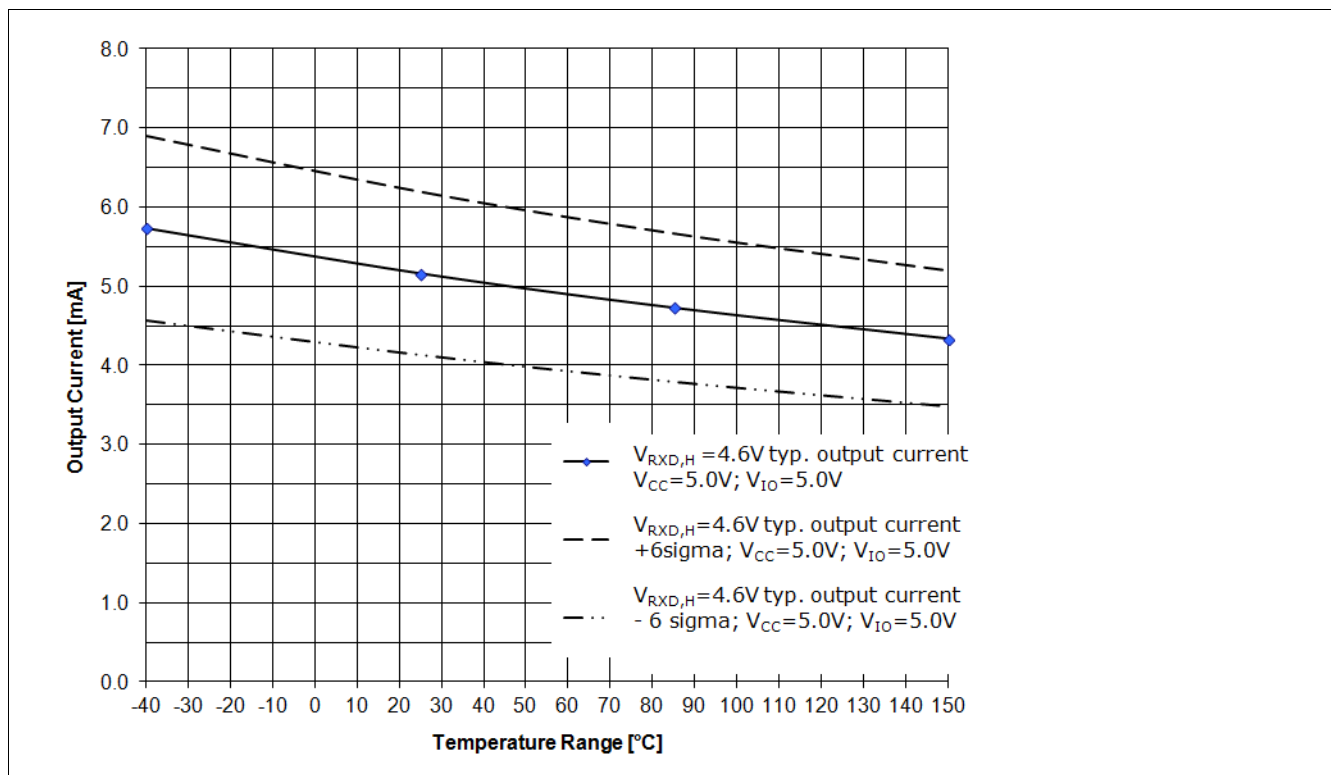

Figure 11 RxD Output driver capability for a logical “High” signal $V_{RxD,H} = 4.6\text{ V}$, $V_{CC} = 5.0\text{ V}$, $V_{IO} = 5.0\text{ V}$ ¹⁾
The diagram in Figure 11 shows the output current capability of the RxD output pin depended on the chip temperature T_J at a V_{IO} power supply of 5.0 V. Figure 12 shows the output current capability of the RxD output pin at a V_{IO} power supply of 3.3 V.
- The curve “VRxD,H = 4.6 V; typ. output current; VCC = 5.0 V; VIO = 5.0 V;” displays the typical output current at the RxD output pin of the TLE8250GVIO (see Figure 11).
- The curve “VRxD,H = 4.6 V; typ. output current + 6 sigma; VCC = 5.0 V; VIO = 5.0 V;” displays the expected maximum value of the output current at the RxD output pin (see Figure 11).
- The curve “VRxD,H = 4.6 V; typ. output current - 6 sigma; VCC = 5.0 V; VIO = 5.0 V;” displays the expected minimum value of the output current at the RxD output pin (see Figure 11).